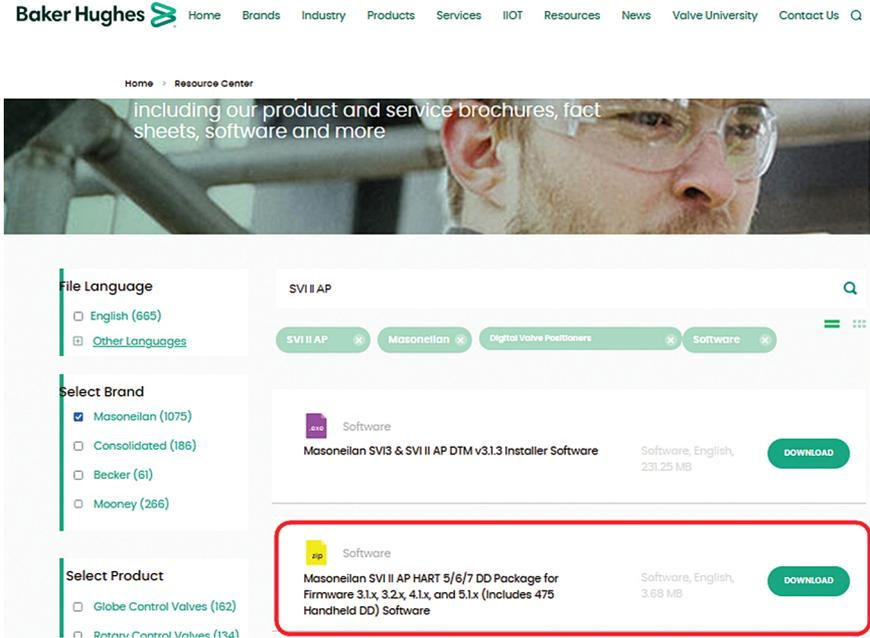

Figure 9 - Download Center: Search for SVI II AP DTM
1. Go to the Resource Library (<https://valves.bakerhughes.com/resource-center>) and enter SVI II AP DTM in the search field (red arrow in Figure 9).